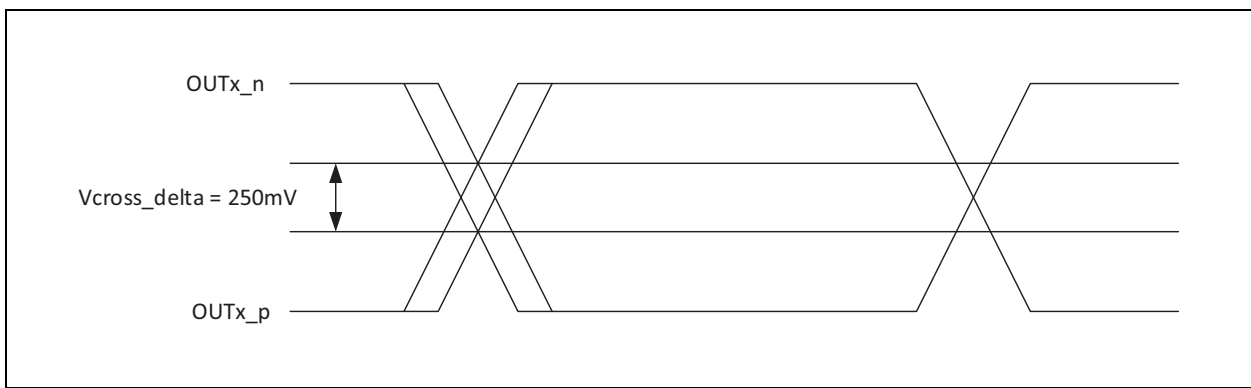

FIGURE 4-2: Single-Ended Measurement Points for Delta Cross Point.
- 9:** Defined as the total variation of all crossing voltages of Rising CK and Falling CK# This is the maximum allowed variance in VCROSS for any particular system. See Figure 4-2.